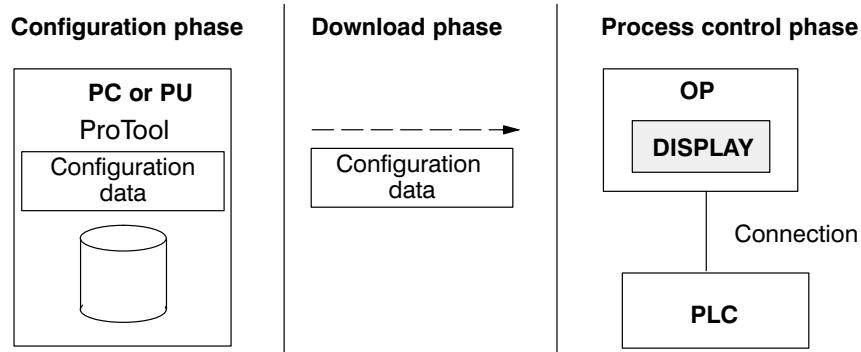

Figure 1-1 Configuration Phase, Download Phase and Process Control Phase
Configuration is performed on a PC or a programming unit (PU). The configuration then has to be compiled under ProTool and downloaded to the OP. If connected to the PLC, the OP displays the current values. Figure 1-1 shows the different phases in which work is performed with configuration data.